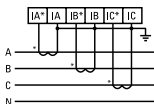

Fig. 3
Ammeters for measuring current above 5A must be connected to the circuit via current transformers with a rated secondary current of 5A (AC) (Fig. 3).